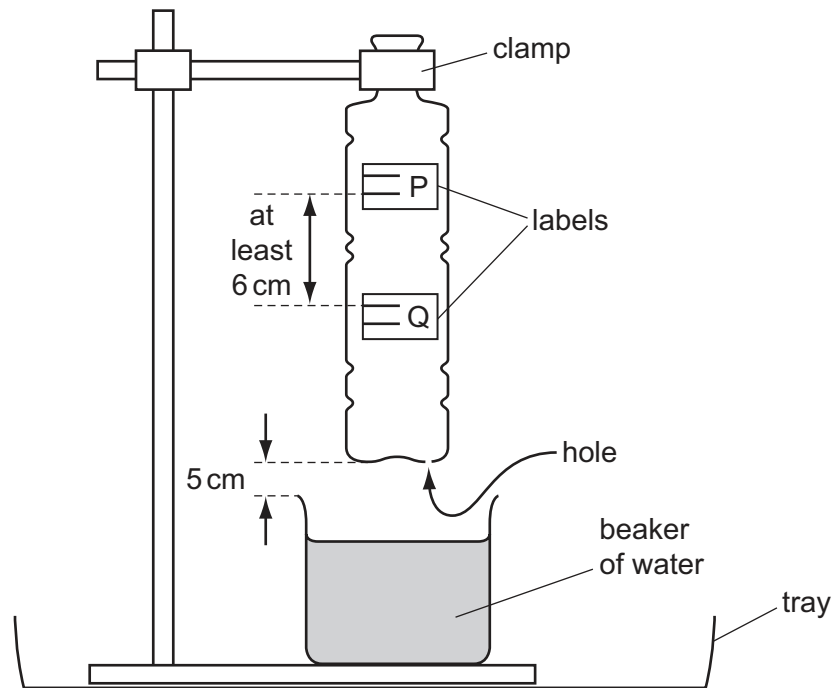

Fig. 2.1
- 1 The bottle should have a circular cross-section and its sides should be parallel for at least two 1.5 cm sections of its height. The diameters of these two sections should be approximately identical, and the two sections should be at least 6 cm apart, as shown in Fig. 2.1. A 1.5 mm diameter hole should be drilled at the **lowest point** in the base of the bottle.
- 2 Two white labels should be fixed to the parallel-sided sections of the bottle, as shown in Fig. 2.1. The upper label should be marked P and have two horizontal lines with a vertical separation of 12 mm. The lower label should be marked Q and have two horizontal lines with a vertical separation of 9 mm. The distance between the the lower line on P and the upper line on Q should be at least 6 cm.
- 3 The apparatus should be assembled as in Fig. 2.1.